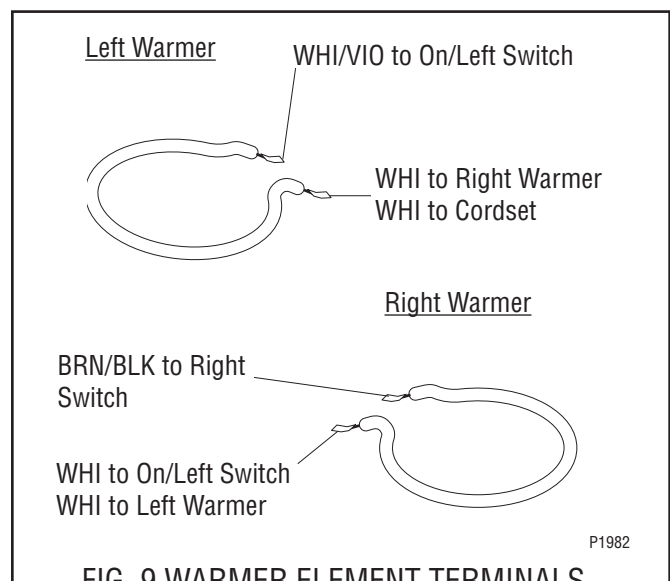

FIG. 9 WARMER ELEMENT TERMINALS
4. Refer to FIG. 9 when reconnecting the wires and orienting the warmers.